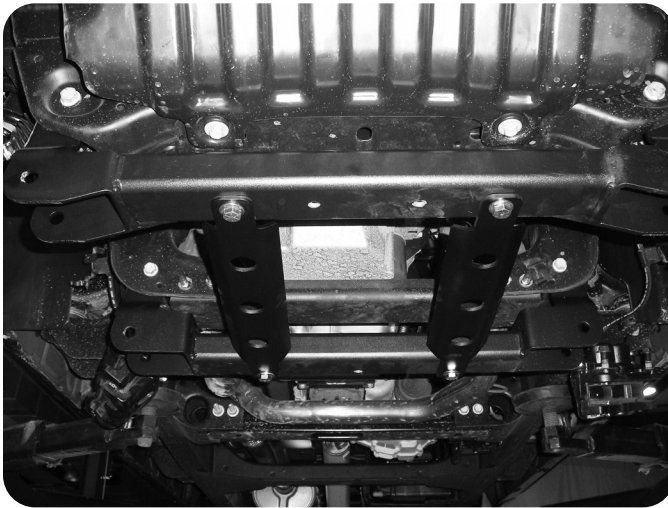

Figure 7
18. Attach the provided crossmember support struts to the front and rear crossmembers with 1/2" x 1-1/4" bolts and 1/2" SAE washers in the outer threaded holes in the front crossmember and 1/2" x 3" bolts, nuts and washer through the holes in the rear crossmember. The ends of the support strut are bent to set flush with the bottoms of the crossmembers **Figure 7**. There will be one thread hole left in the center of the front crossmember. Install the remaining 1/2" bolt and washer in this hole. Use Loctite on the bolts. Leave hardware loose.